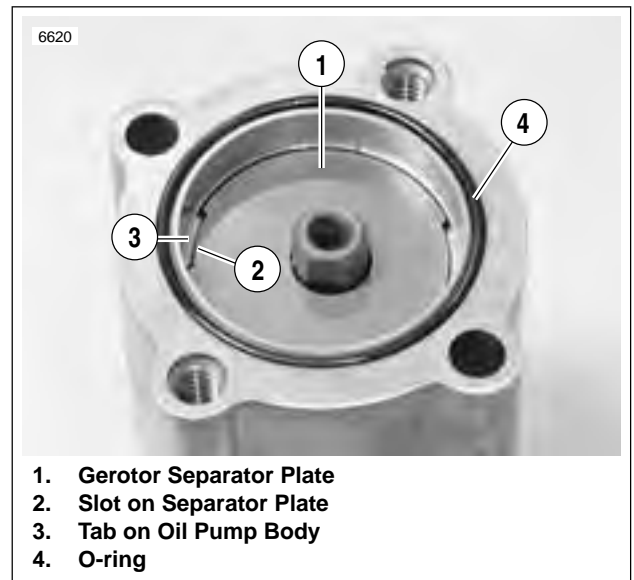

Figure 3-93. Separator Plate Slots
3. See Figure 3-93. Check gear shaft teeth for damage or wear. Replace if necessary.
4. See Figure 3-93. Install gerotor separator plate by lining up slots on perimeter with tabs inside oil pump body.